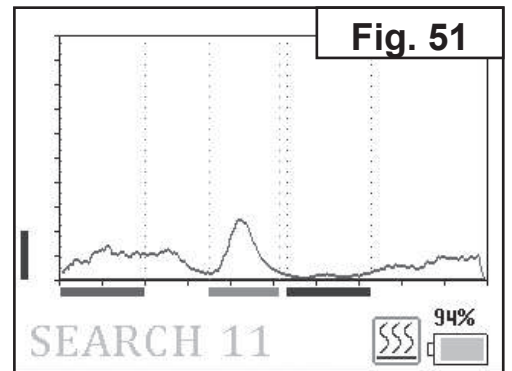
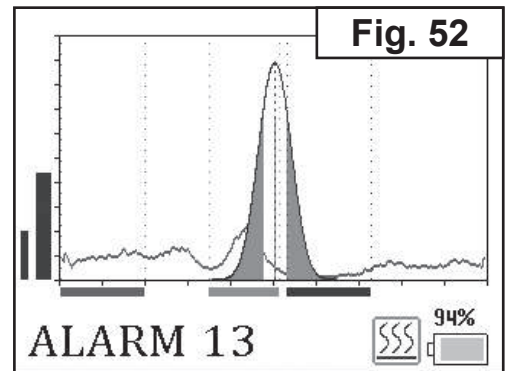

Fig. 51
Fig. 52
10. Tap  to enter «SEARCH» mode (Fig. 51). In case of explosive detection ALARM signal should appear (Fig. 52).